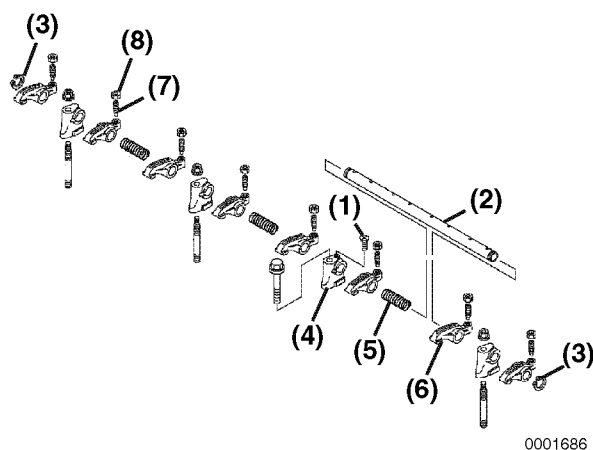

Figure 6-31
Note: To properly align the rocker arm shaft with the rocker arm shaft supports, first install the rocker arm support bracket (**Figure 6-31, (4)**) with the hole for the shaft alignment screw (**Figure 6-31, (1)**). Align the hole in the rocker arm shaft and the hole in the rocker arm support bracket. Install the alignment screw.
2. Position the rocker arm assembly on a flat surface. Install the retaining rings **(Figure 6-31, (3))** onto the end of the rocker arm shaft.
4. Install the valve adjusting screws **(Figure 6-31, (7))** and lock nuts **(Figure 6-31, (8))**.